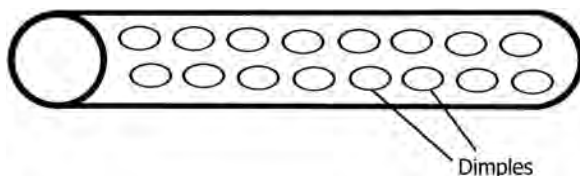

FIGURE 14.11 Dimpled tube.
- Figure 14.11 illustrates a dimpled tube.